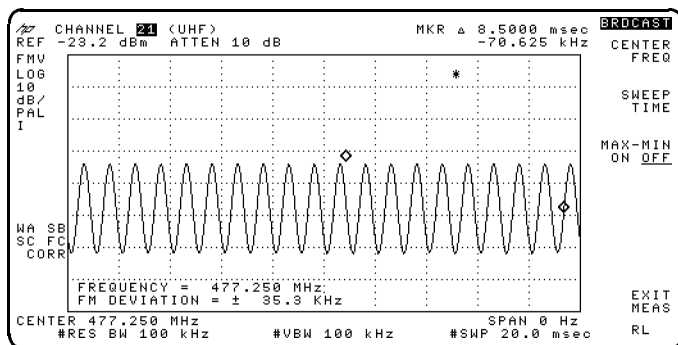

Figure 2-25. FM Deviation
3. The result is displayed as shown in Figure 2-25.